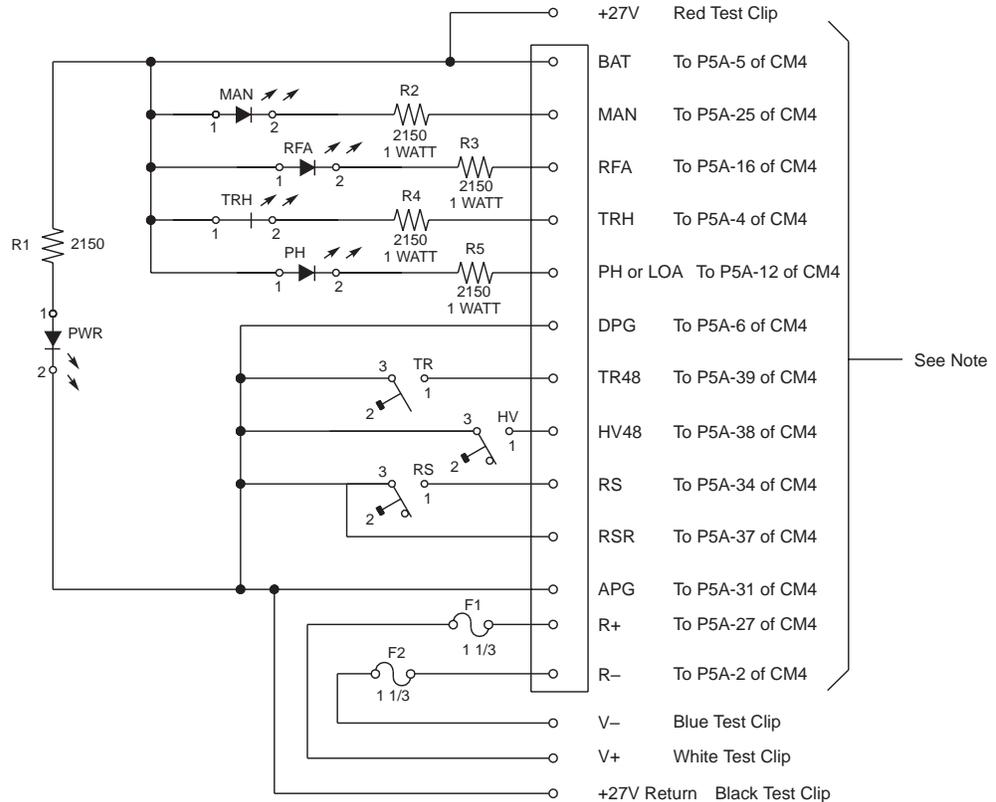

Figure 6-1: Battery Plant Simulator Test Set
- Battery Plant Simulator Test Set, customer constructed, or equivalent (See Figure 6-1.)
The Battery Plant Simulator Test Set is a convenient tool used to isolate communication trouble between the plant controller and the rectifier. It simulates the plant controller relative to receiving signals from, and sending signals to, the rectifier. If there is a problem and the rectifier works properly with the test set, the problem is either at the controller or in the interface wiring (plant cable). Figure 6-1 shows how to construct a test set. Table 6-A shows how to connect the test set to the rectifier.
Terminate the remaining 4 extension wires (shown outside the brace in Figure 6-1) using miniature alligator clips that are color-coded as shown.
4. Place the Battery Plant Simulator Test Set (Figure 6-1), at a convenient location near the rectifier. Connect **J5A**, on the other end of the cable from the test set, to connector **P5A** on the **CM4** interface board mounted on the inside of the rectifier door. Connect the red, black, blue, and white test clips from the test set as detailed in Table 6-A. Refer to Figures 6-2 and 6-3.